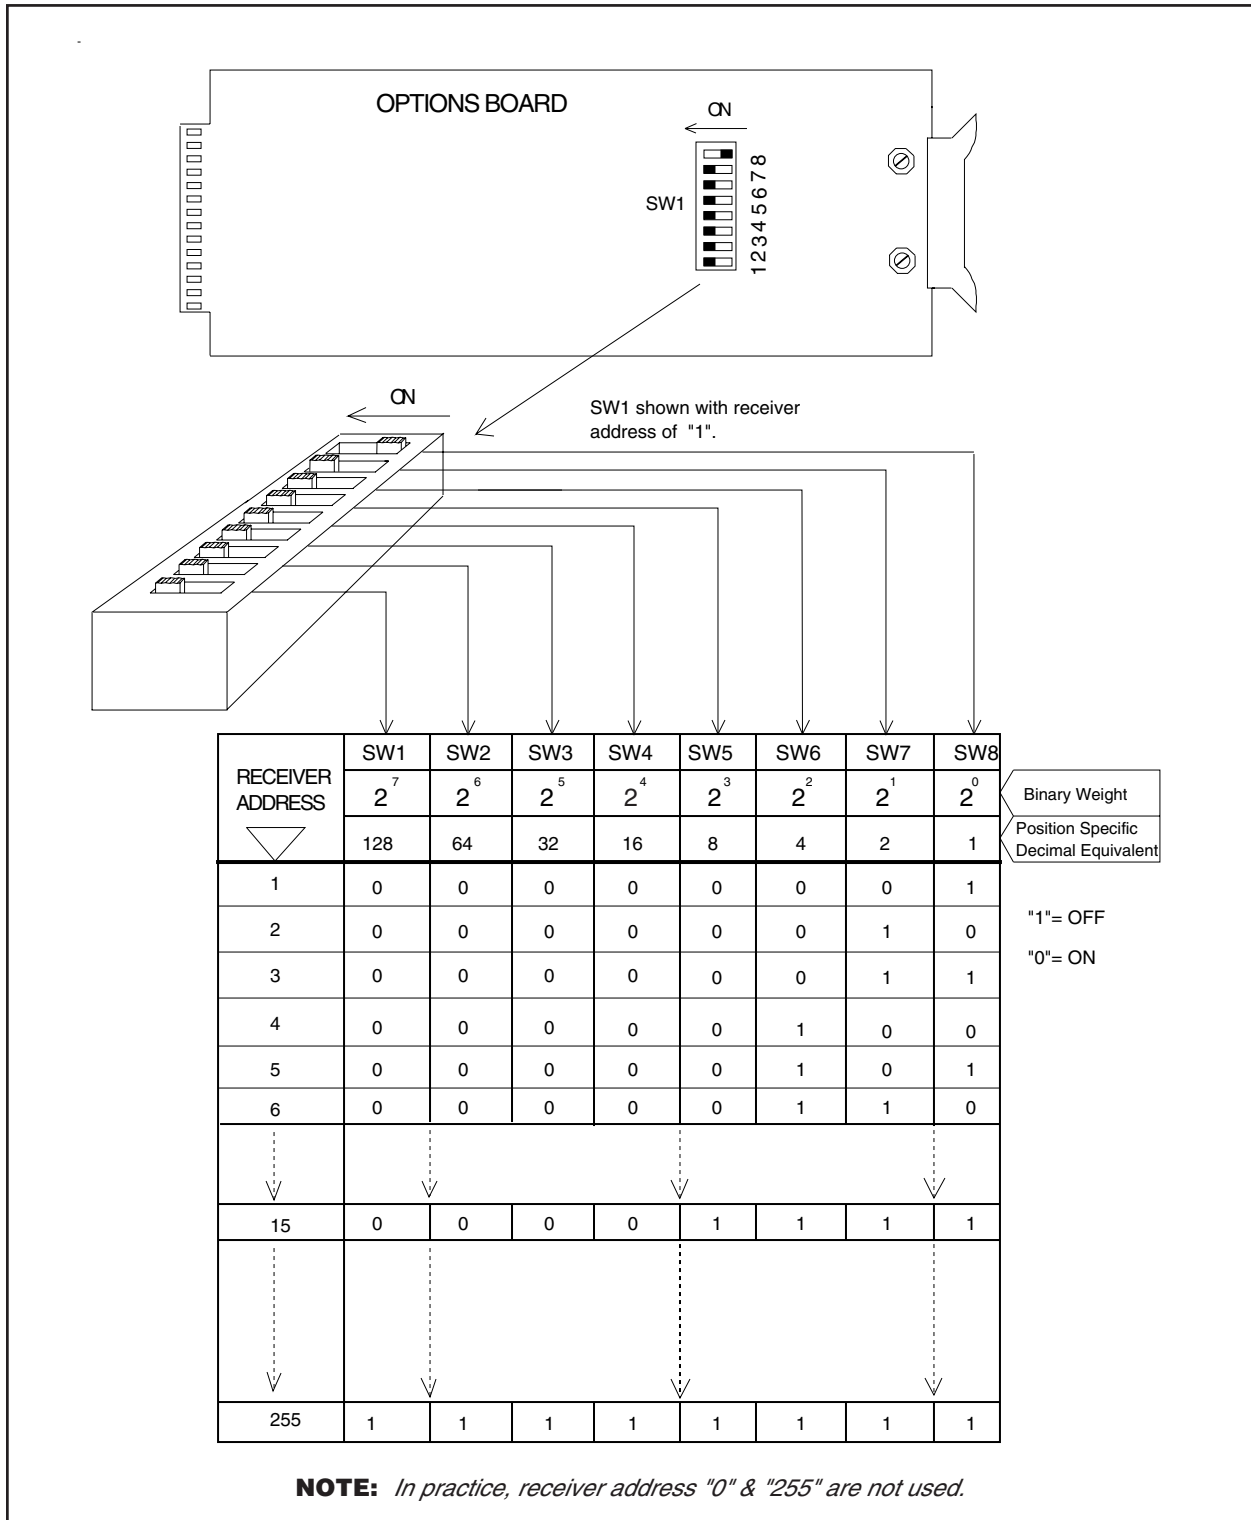

Figure 6. Options Board Address Settings
This board contains all the circuitry required for all options. The components will be loaded or not loaded according to the model being built. Preset circuits are loaded for preset (PP). Receiver Address circuits are loaded for the 9504 versions of the receiver. The RS-485 drivers are only loaded for the 9504 version. The address switch sets the receiver address on power-up, and any change of address requires a hard reset. Switch settings are binary encoded. Figure 6 shows how these address settings are derived. If you are running simple coaxitron, you only have one address to worry about; if you're running RS485 multiple control applications, then each Receiver Option Board must be set for a different address. Implement Receiver addressing, using Figure 6 as a guide.